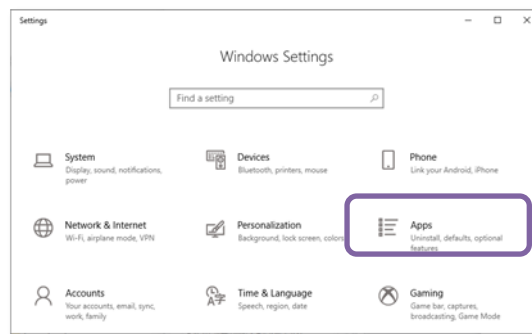

Figure 7.12 Setting window
- (2) Choose “Apps” from “Windows Settings” window. (Figure 7.12)